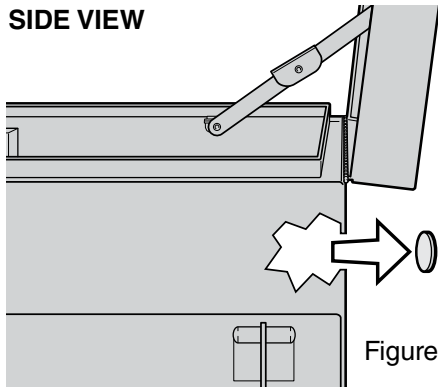

Figure 4
2. With a screwdriver and hammer, carefully punch out the "knockout" from the inside of the box so that metal ring will fall outside box (figure 4).